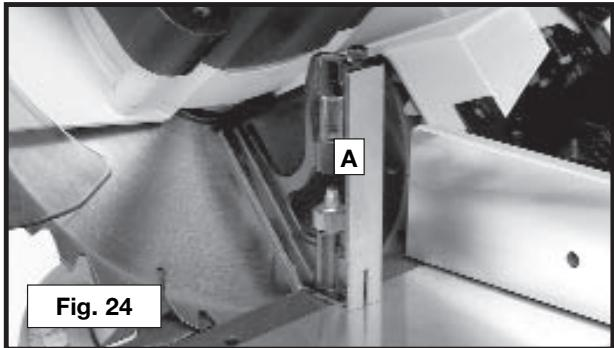

Fig. 24
5. Use a combination square (A) Fig. 24 to see if the blade is at 45° to the table.